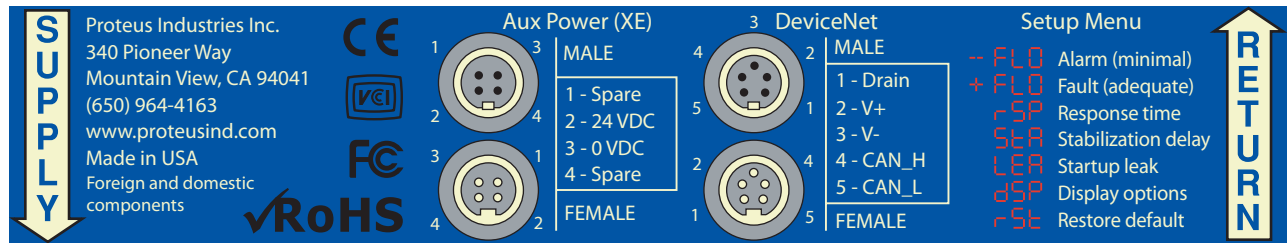

Figure 3: Wiring and electrical connection diagrams for the WS2N WeldSaver
1. Refer to Figure 3 on Page 23 for dimensions and fastening locations.
1. Refer to Figure 3 above to identify the 24 VDC power interface connections.
2. Refer to Figure 3 above to identify the DeviceNet power interface connections.